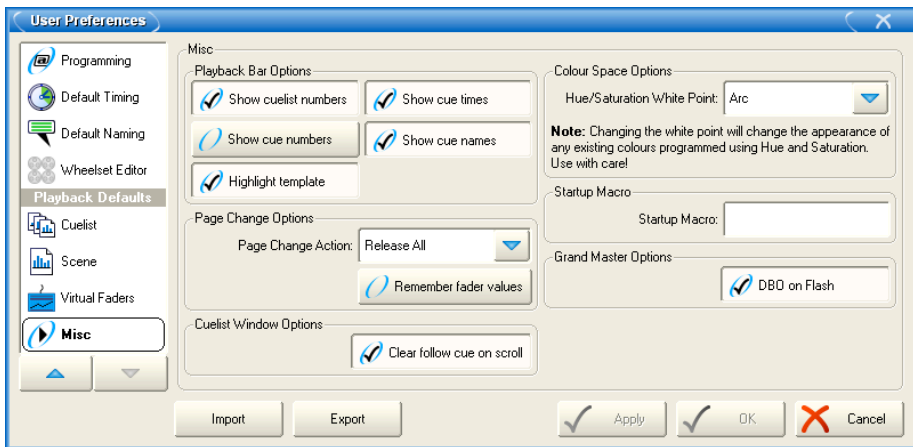

Figure 26.1. The Misc pane of the User Preferences window
- Setup → Preferences → Misc : see *Figure 26.1, "The Misc pane of the User Preferences window"*.